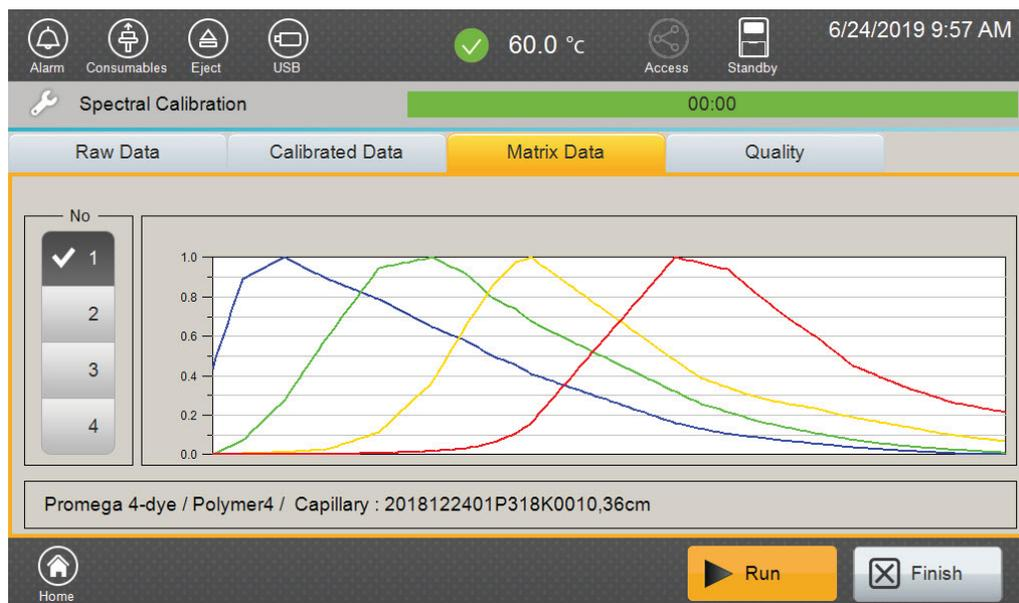

Figure 40. Spectral Calibration 'Matrix Data Tab' screen.
3. The 'Matrix Data' tab can be used to view emission spectra for each capillary (Figure 40).